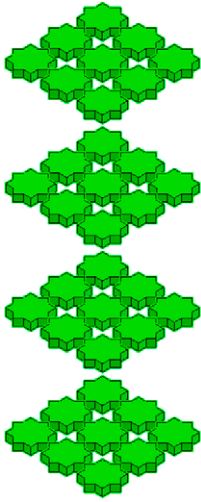

Fig. 14.12 First example – a 3D Rectangular Array
### First example – a Rectangular Array (Fig. 14.12)
4. Shade using the **View/Visual Styles/Shaded with Edges** visual style (Fig. 14.12).